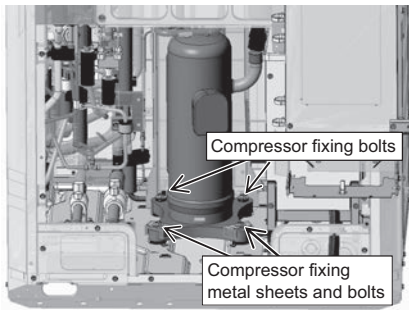

Figure 9
- (9) Remove the four bolts holding the compressor down. (See Figure 9.)